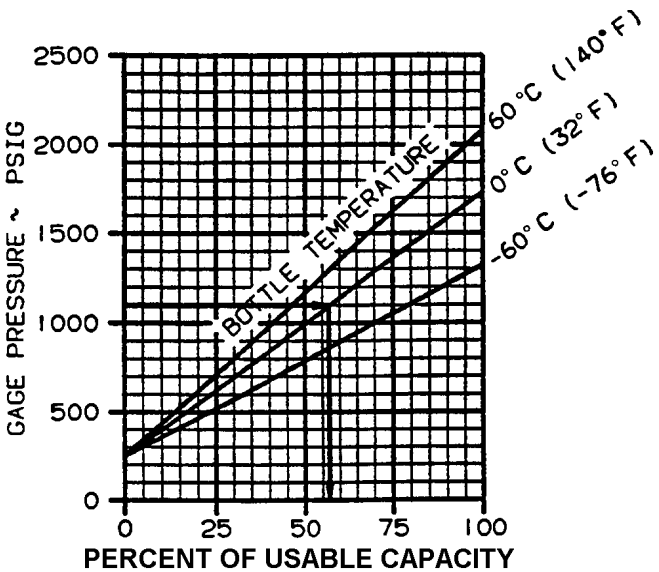

Figure P-1. Percent of Usable Capacity
- c. Determine the percent of usable capacity from Figure P-1 (e.g., 1100 psi at 0 °C = 57%).